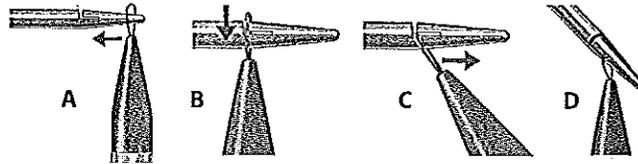

Figure 2: Association Loop Engagement
7. Engage one (1) association loop to the distal end of the needle (see Figure 2) protruding through the vagina.